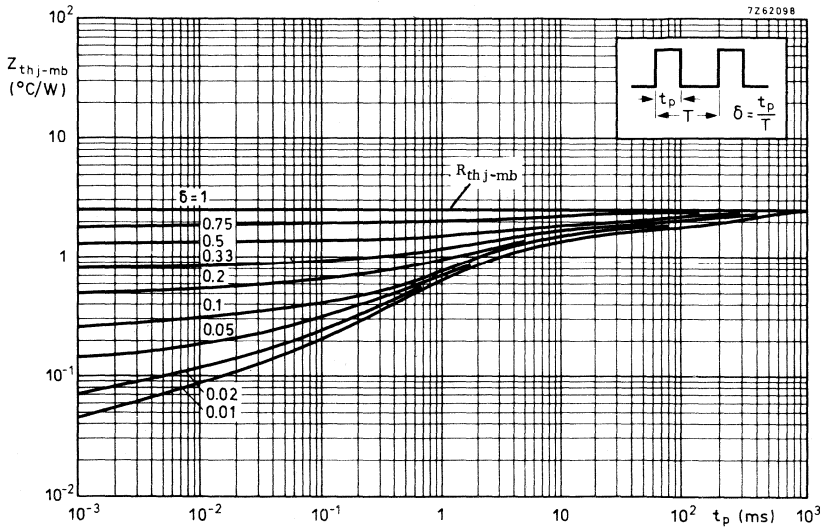

Fig. 5
where $Z_{th\ j-mb}$ is the transient thermal impedance from junction to mounting base and is dependent not only on $R_{th\ j-mb}$, but also on pulse width (t_p) and period (T). $Z_{th\ j-mb}$ is generally published in the form of Fig. 5.